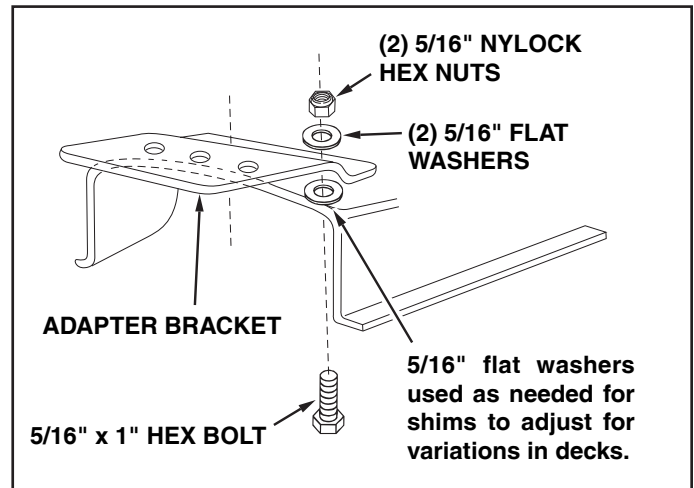

FIGURE 26
- Assemble the adapter bracket to the deck using two 5/16" x 1" hex bolts, 5/16" flat washers and 5/16" Nylock hex nuts. See figure 26.
**NOTE:** It may be necessary to use extra 5/16" flat washers to shim under the bracket next to the deck surface. Ten extra washers have been furnished as shims. See figure 26.